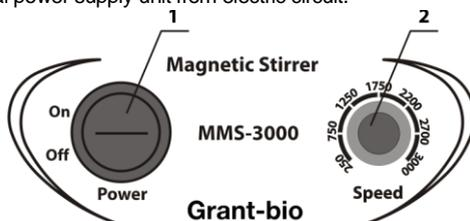

Figure 3. Control panel
- 5.3. Turn the **Power** switch (fig. 3/1) into the position **I** (On).
- 5.4. Set the required speed using the **Speed** knob (fig. 3/2). Increase the speed smoothly.